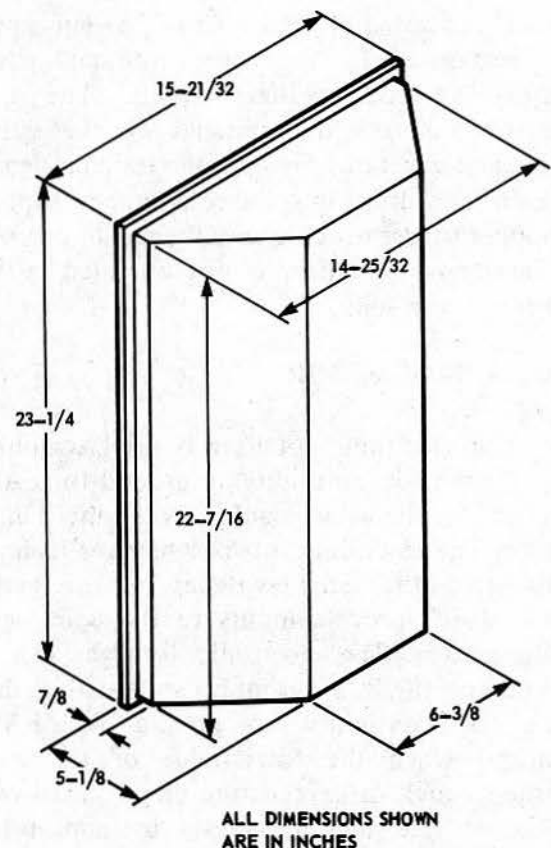

Fig. 2 — Rear View of QSD300A and QSD2300A Telephone Sets, Showing Physical Dimensions
2.13 The dimensions of the QSD300A and QSD2300A coin telephone sets are shown in Fig. 2.